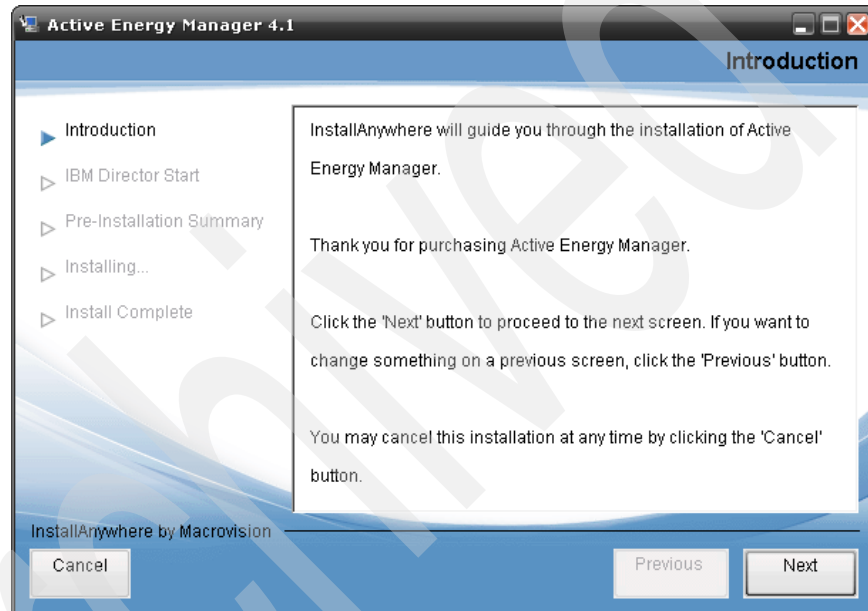

Figure 3-6 Installing the license using the GUI
- a. Run the installer executable file from the Windows directory on the CD-ROM. An Introduction window opens, as shown in Figure 3-6.